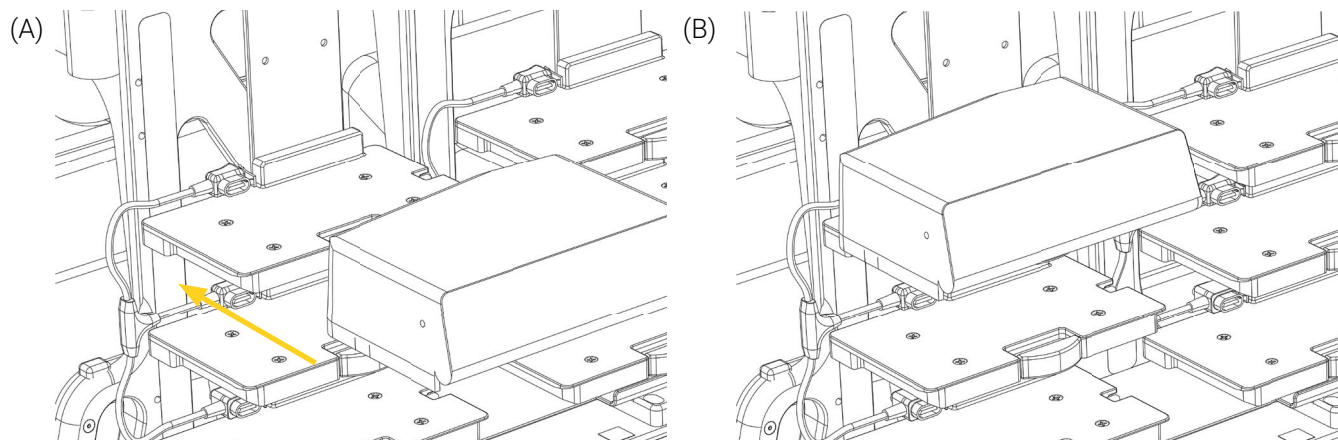

Figure 19: Installing the infusion pump
3. Align and insert the bottom grooves in the pump bracket, then push the pump until the locking mechanism of the bracket is engaged (Figure 19), being careful not to wedge the power cord.